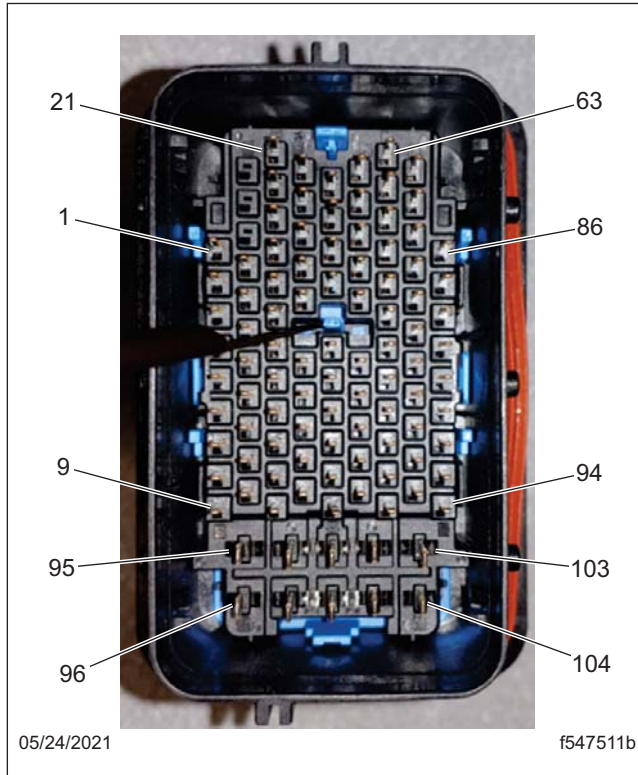
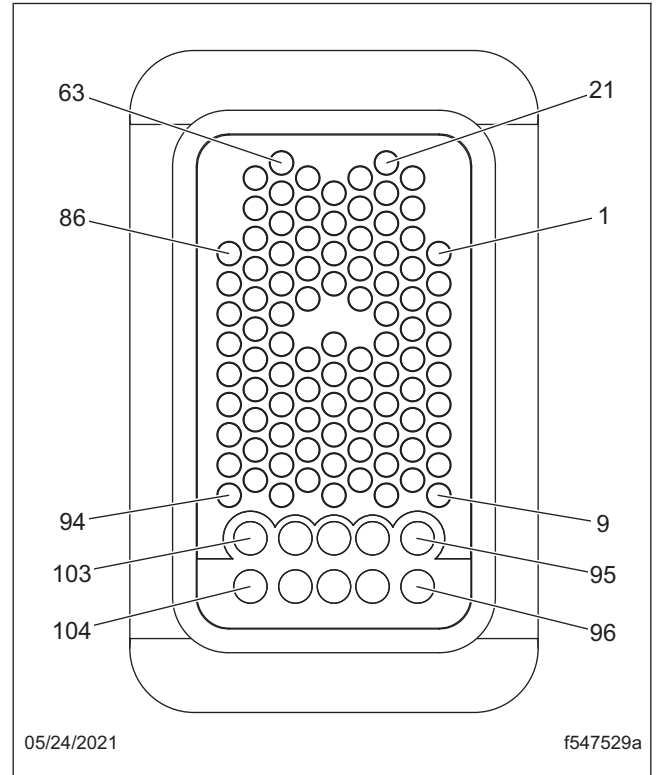
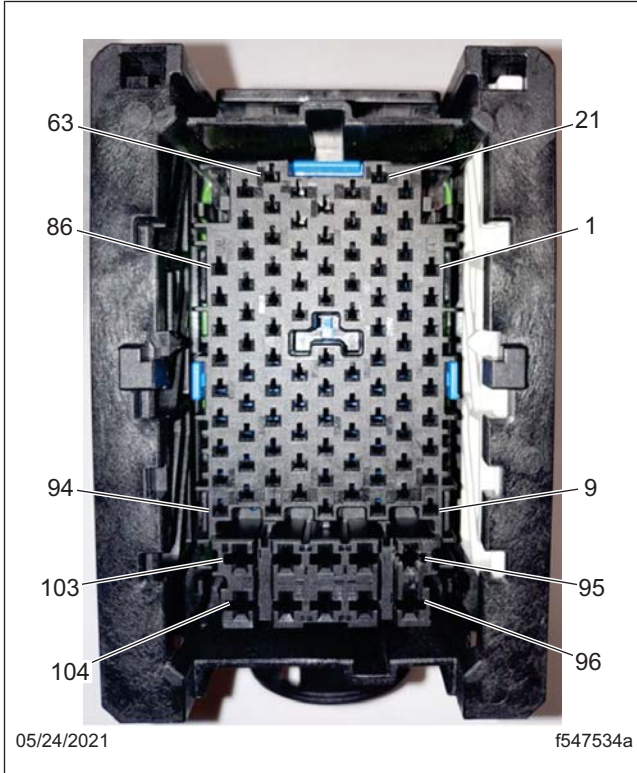
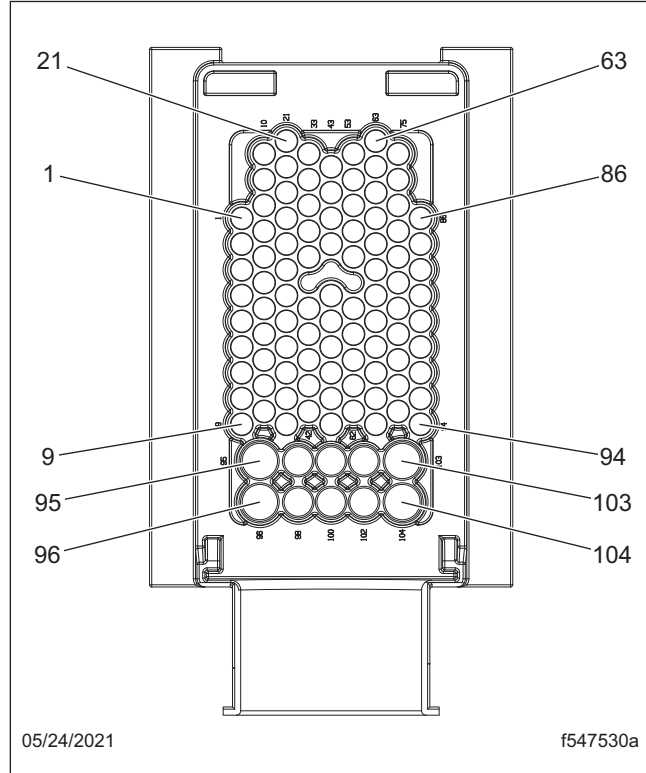

Fig. 8, Cab-side Cavity Locations (Front)
Fig. 9, Cab-Side Cavity Locations (Rear)
Fig. 10, Chassis-Side Cavity Locations (Front)
Fig. 11, Chassis-Side Cavity Locations (Rear)
1.1 When repairing a terminal/wire using the pigtail kit, select an equal or larger wire size for the repair. Never install pigtail with a wire size smaller than the original wire being replaced. Additionally only cavities 95, 96, 103, and 104 can be used for larger 12 and 10 gauge wires. See Fig. 8 and Fig. 9 for examples of cab-side cavity locations. See Fig. 10 and Fig. 11 for examples of chassis-side cavity locations.